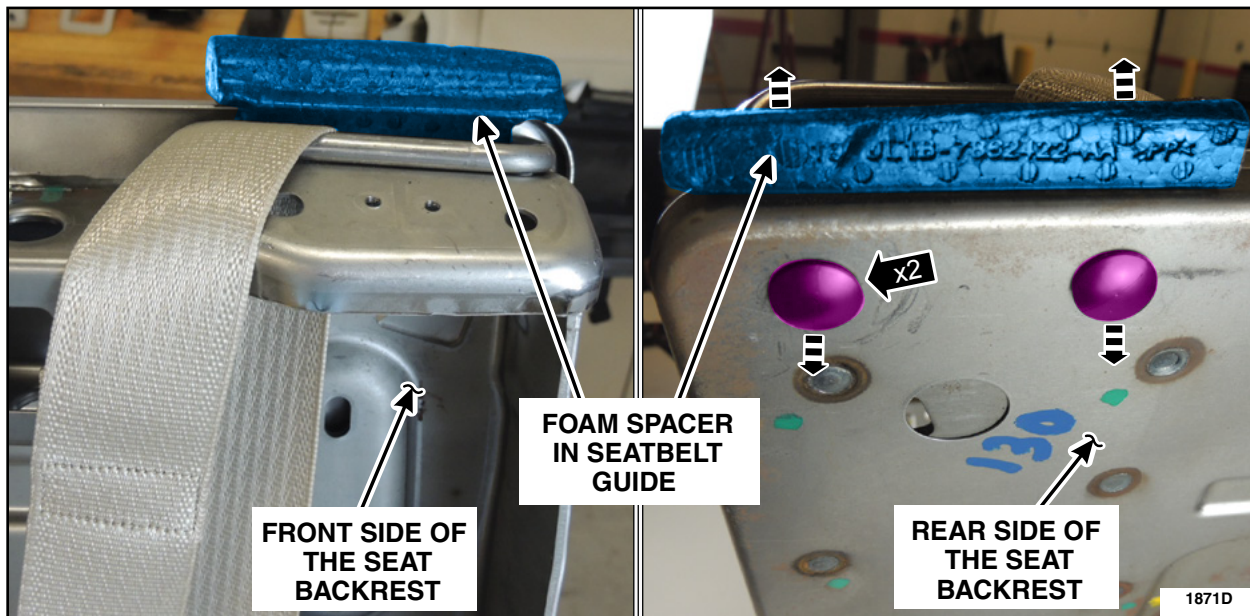

FIGURE 5
5. Remove the push pins and the foam spacer from inside the second row center seatbelt web guide. See Figure 5.
27. Install the seatbelt guide foam spacer and the push pins. See Figure 5.